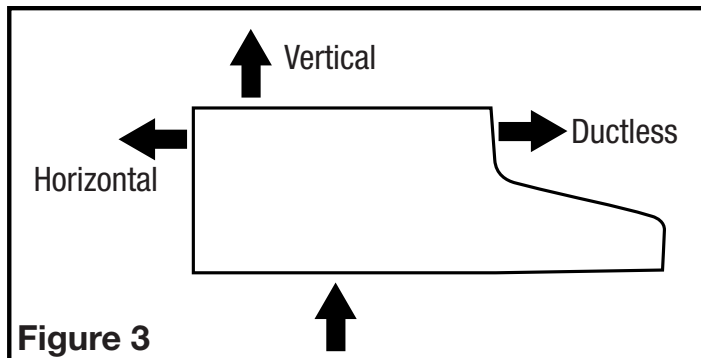

Figure 3
1. Choose the type of ducting you will require. To ensure the best air and sound performance, it is recommended that the length of ducting and the number of elbows be kept to a minimum, the radius of each elbow be as large as possible for the installation, and that hard ducting be used. Larger duct sizes will reduce noise and airflow restrictions. This model is equipped to vent either vertically or horizontally through a 3-1/4" x 10" duct. It can be modified to be ductless (re-circulates the air back into the kitchen) with the addition of 2 models CF-01 Charcoal Filters (not included) (**Figure 3**).